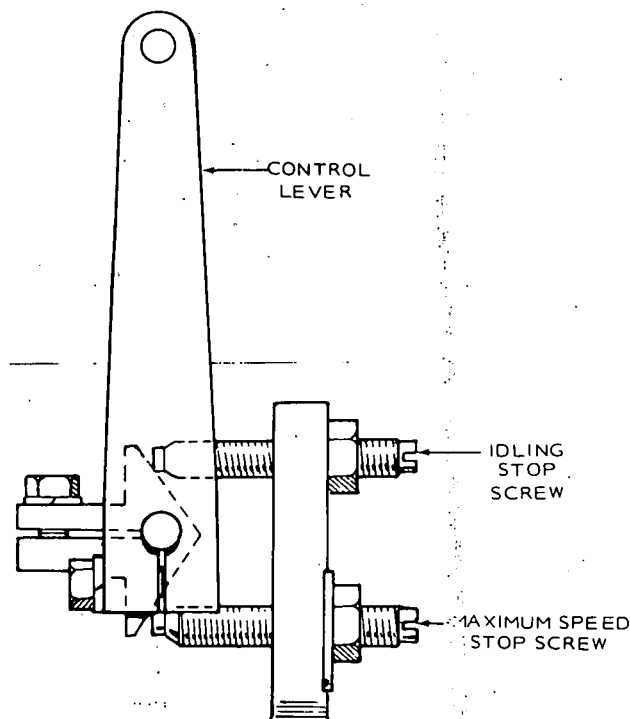

FIGURE 26. GOVERNOR SPEED ADJUSTMENT
1. Loosen lock nuts on idle stop screw and maximum speed stop screw. Refer to Figure 26.